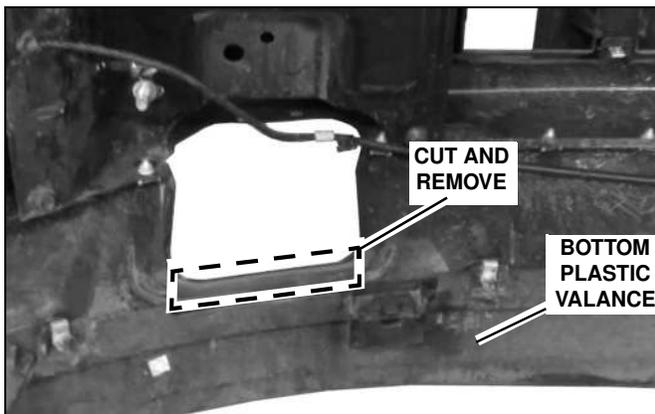

Figure 11
7. Unscrew and remove the bottom plastic valance from the bumper. Keep the bottom valance for reinstallation if the Mount Kit is removed. Then cut and remove the narrow lip of the plastic portion of the bumper directly below where the tow hooks protruded from. (See Figure 11)